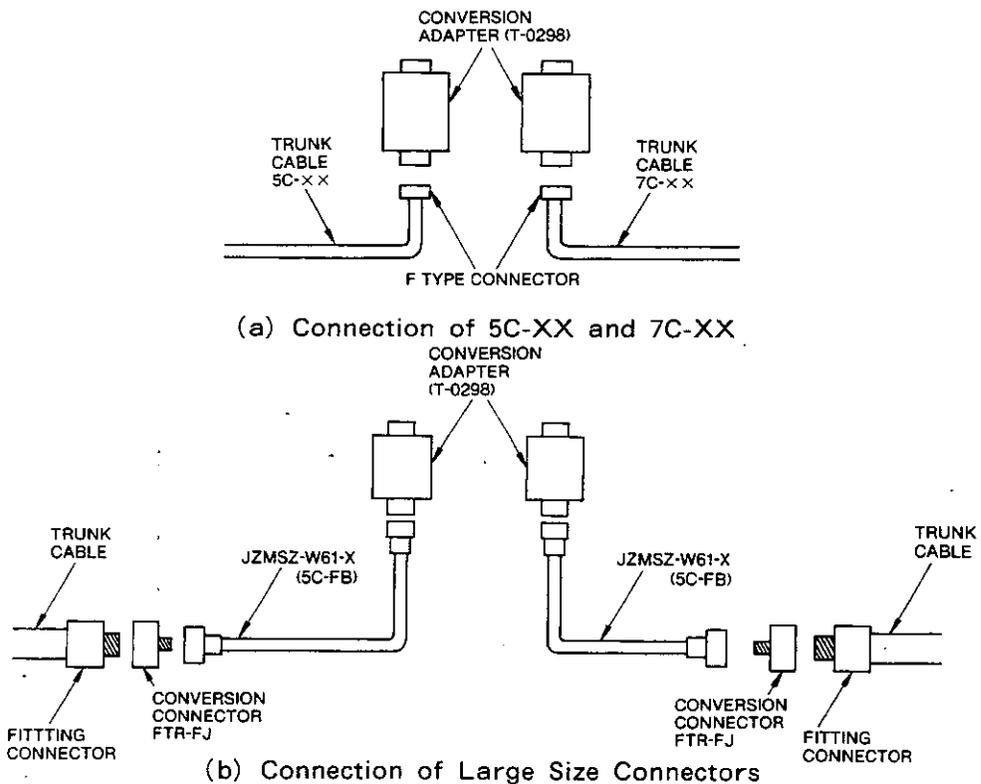

Fig. 2.3 Connection using F Type Connector
- (1) In the case of using 5C-XX, 7C-XX coaxial cables, connect the cables to the conversion adapter with F type connectors as shown in Fig. 2.3 (a).
- (2) In the case of using HC-4AF, 12C-5AF coaxial cables connect the cables to the conversion adapter with F type connectors after connecting to small size coaxial cables of 5C-XX or 7C-XX with the conversion connector as shown in Fig. 2.3 (b).